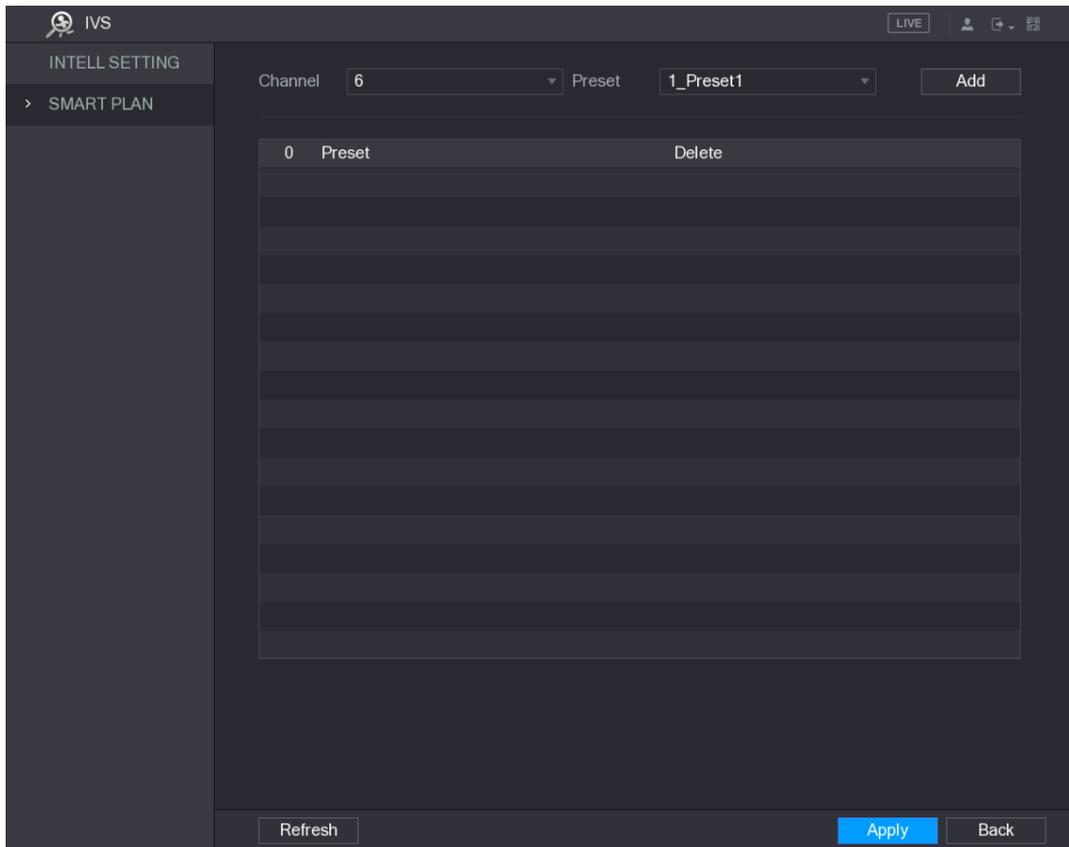

Figure 5-145
- For the IP camera with preset, see Figure 5-145.